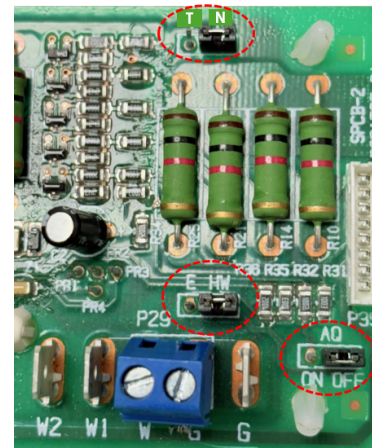

Fig 11.3
Fig.11-3 provides a schematic of the control board present in the unit. The unit ships from the factory with the aquastat jumper (AQ) in the OFF position (right two pins) and the heating selector in the HW position (right two pins). If an aquastat (AQ) is used in the application, the jumper should be changed to the ON position (left two pins). Terminals T and N located on the top right side of the board are not intended for field use and should be left disconnected.